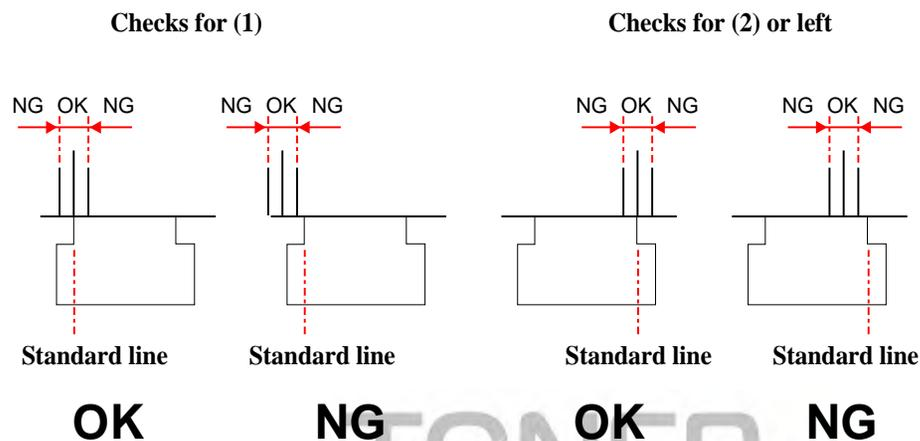

Figure 5-61. Adjustment pattern (zoom)
11. See **Figure 5-61** and check if the standard line for the Waste Ink Pad for the borderless printing is within the OK range.